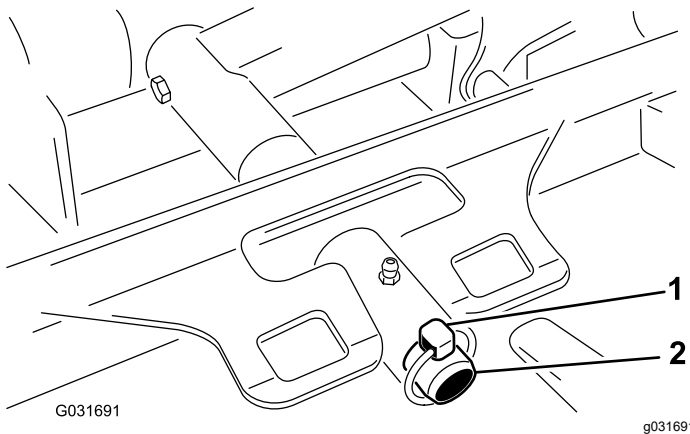

Figure 102
3. Remove the lynch pin securing the deck-carrier frame to the lift-arm pivot pin (Figure 102).
3. Slide the deck-carrier frame onto the lift-arm pivot pin and secure it with the lynch pin (Figure 102).